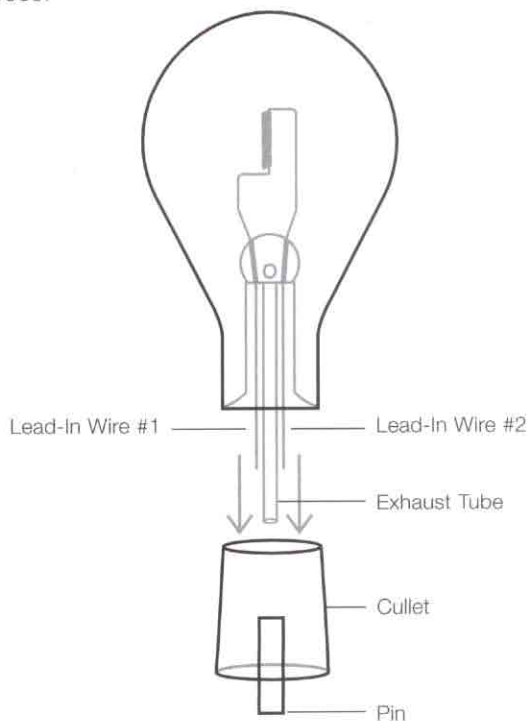

Figure 6
on the turret. As the two are fused into one, the extra glass at the base of the bulb, the cullet, is dropped down around a pin (figure 6). Later, this pin is withdrawn and the cullet is blown into an excess glass container and recycled. As cullet is being disposed, the hot end of the bulb is shaped in a mold to ensure a better fit with a metal base that will be attached later. The aesthetics of the bulb contour above the base are improved in the process.
- **Lead-in wire #1:** The first section, which is adjacent to the exhaust tube and later outside the sealed bulb (figure 6), is copper about 2" long. The second section is Dumet (dual metal), a nickel-iron alloy core with a copper sleeve that has a coefficient of expansion equivalent to that of glass. The third part, which clamps the filament, is nickel, nickel plated copper or sometimes copper about 2" long.